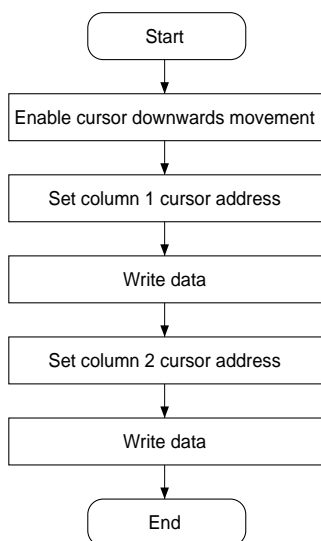

Figure 69. 16 × 16-dot display flowchart
2. The microprocessor sets the display address and writes to the VRAM. The flowchart is shown in Figure 69.